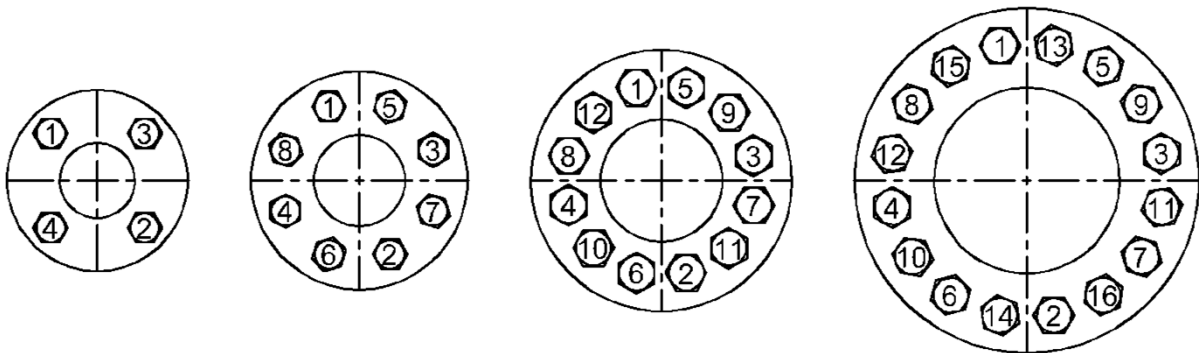

Figure 2. Flange Bolt Tightening Sequence
7. Tighten bolts evenly, gradually and alternately in a star pattern as shown below. (See. Fig. 2)
- Open the side flange joint by loosening the nuts in sequence.(See. Fig. 2)